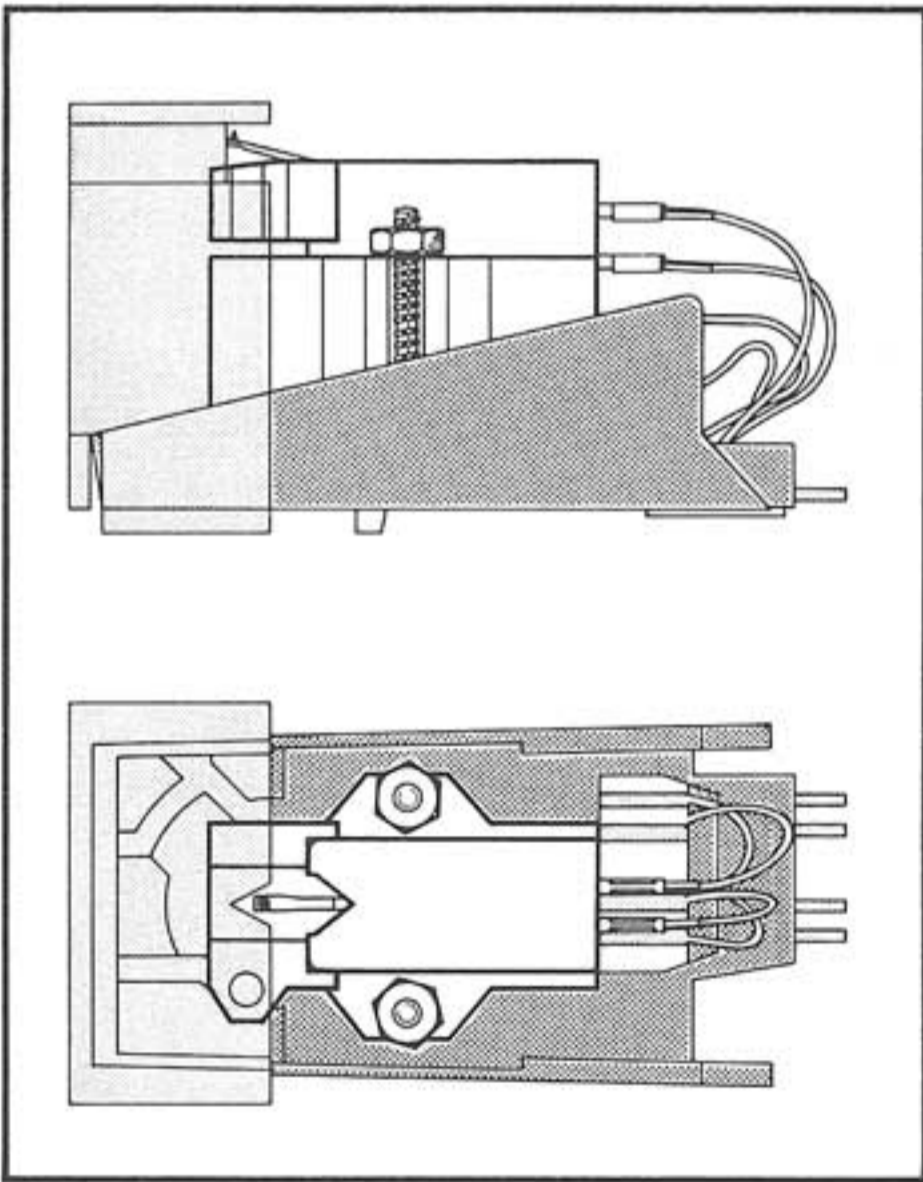

Fig. 12
is situated vertically within area (A) (Fig. 12).